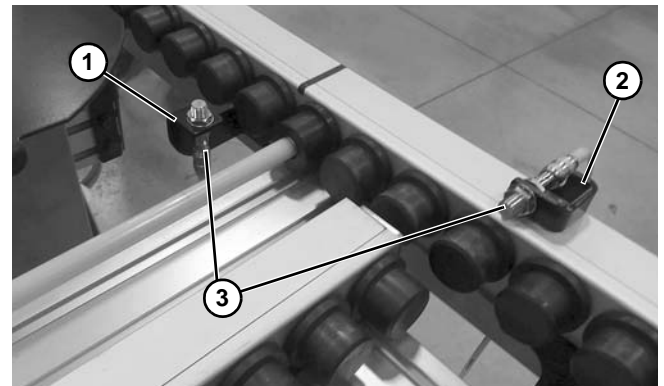

Figure 11
Optional bottom mount (**Figure 11, item 1**) or side mount (**Figure 11, item 2**) sensor brackets can be used to mount a 12 mm barrel proximity sensor (**Figure 11, item 3**).